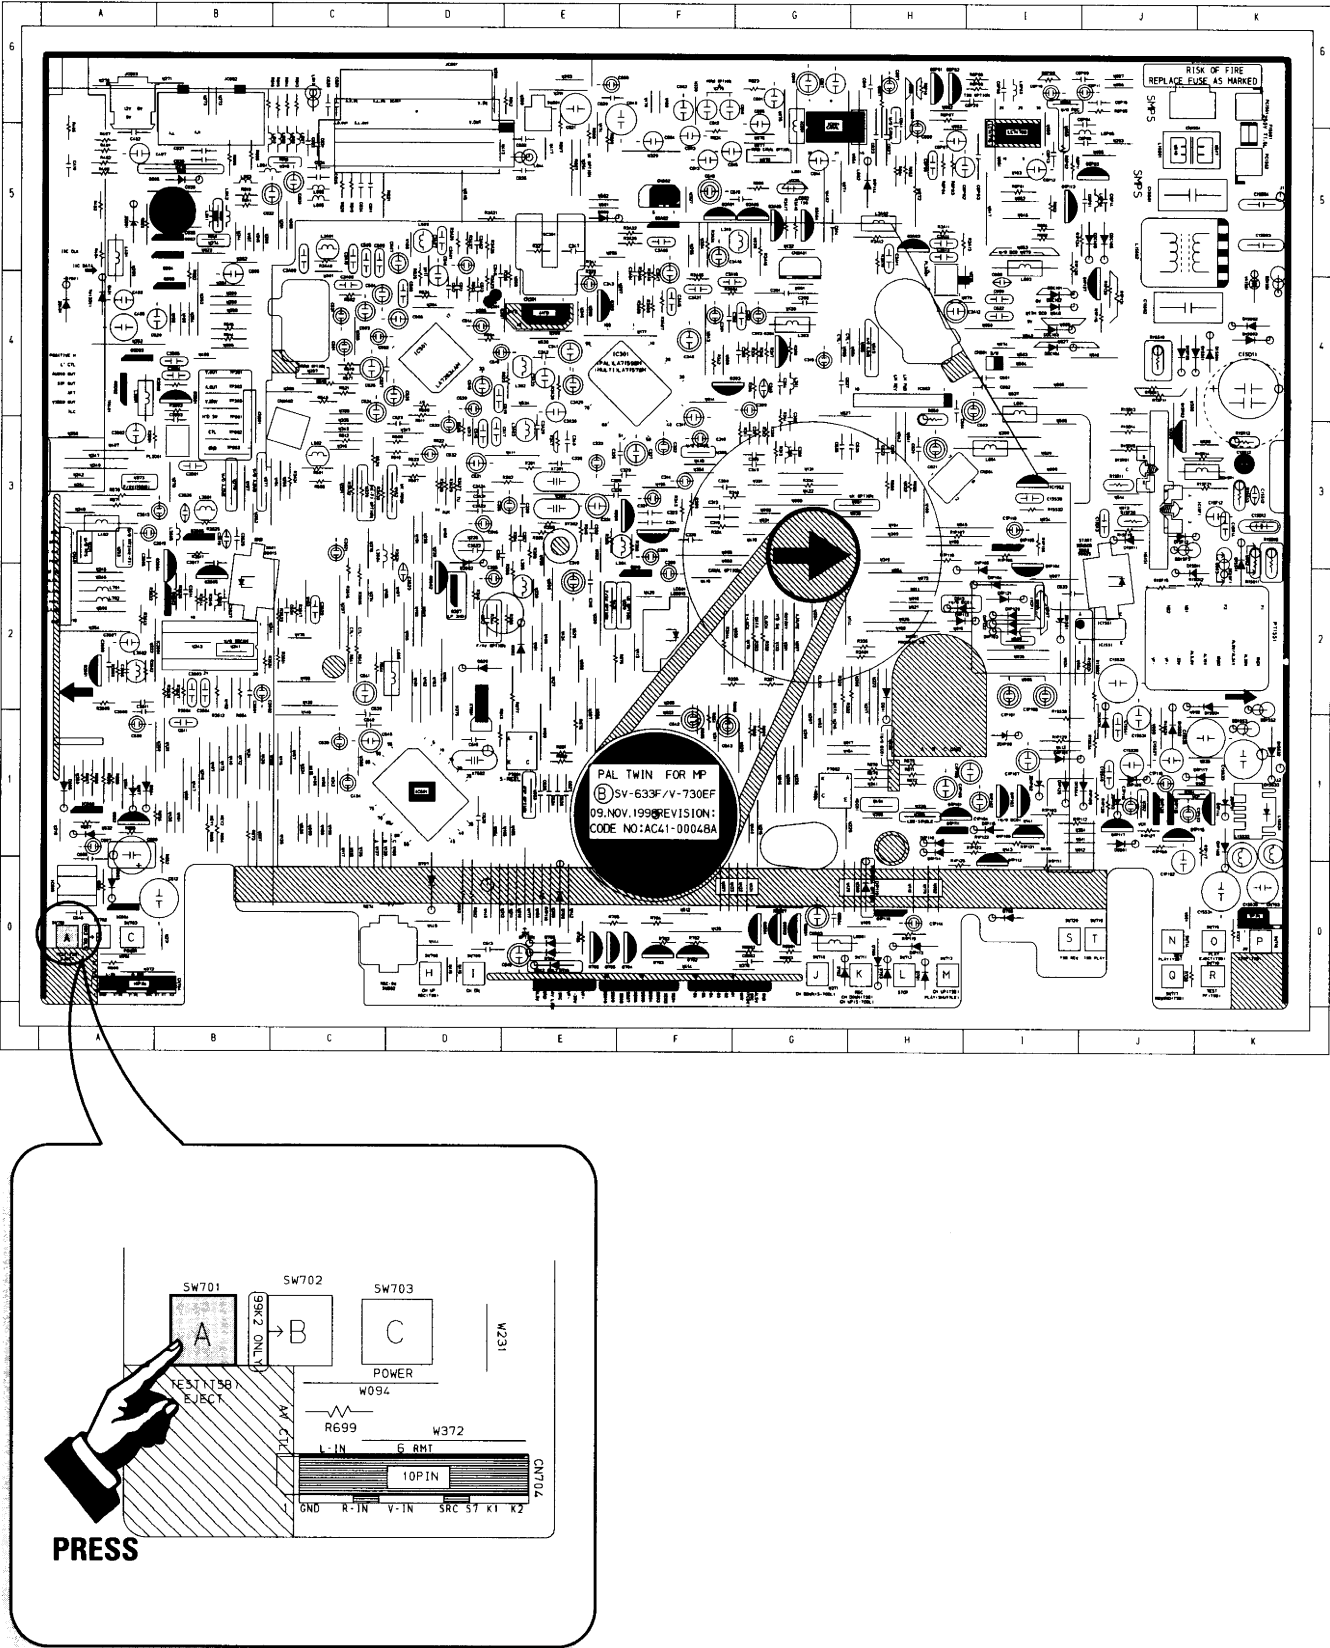

Fig. 5-2 Main PCB (Top View)
- 2) Press the "SW701 (TEST)" button on Main PCB to set the adjustment mode. (See Fig. 5-2)